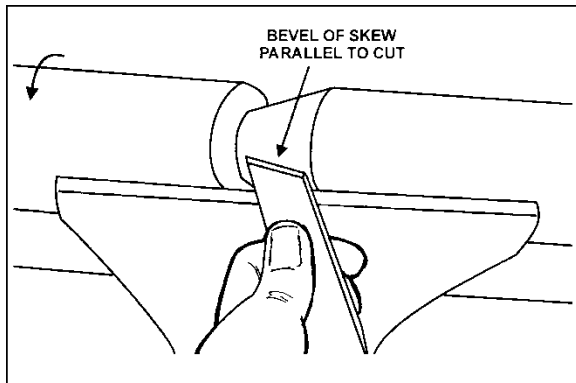

Figure 10-8: V-Cuts
4. With the bevel parallel to the right side of the cut, raise the handle and push the tool in to the desired depth, as shown in Figure 10-8.